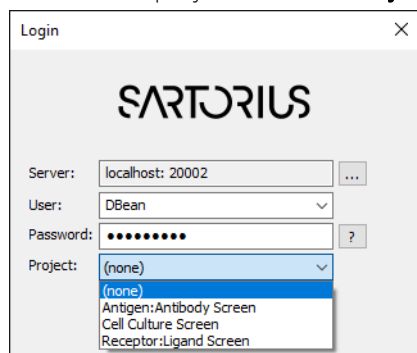

Figure 4-10: Project Selection
5. Select a project from the **Project** drop down list, if required (Figure 4-10).